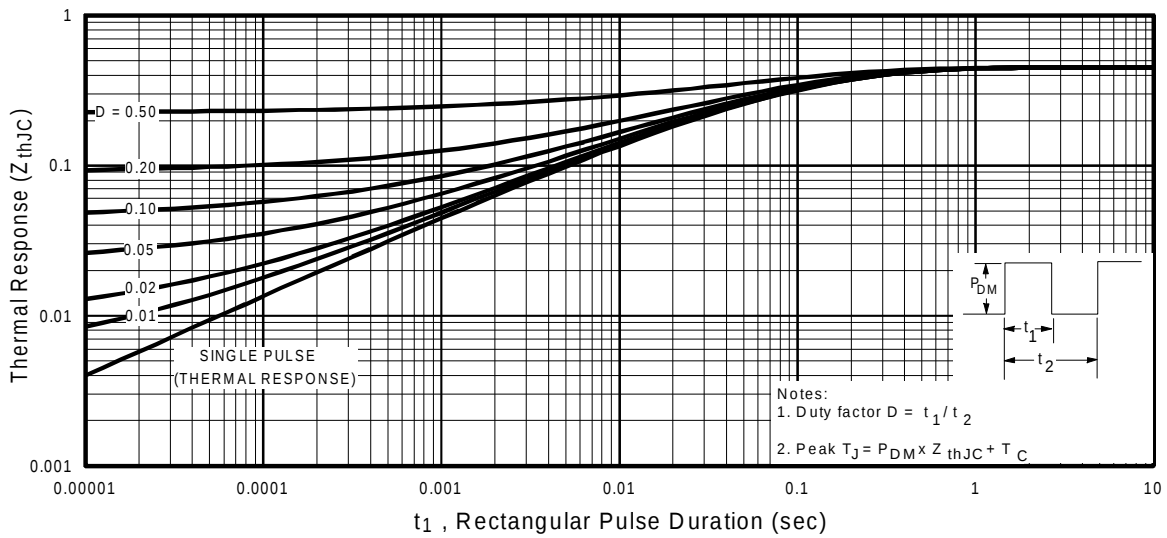

Fig 11. Maximum Effective Transient Thermal Impedance, Junction-to-Case
① Repetitive rating; pulse width limited by max. junction temperature. (See fig. 11)
③ $I_{SD} \leq 23A, di/dt \leq 170A/\mu s, V_{DD} \leq V_{(BR)DSS}, T_J \leq 150^\circ\text{C}$
② $V_{DD} = 25V$, starting $T_J = 25^\circ\text{C}$, $L = 4.0mH$